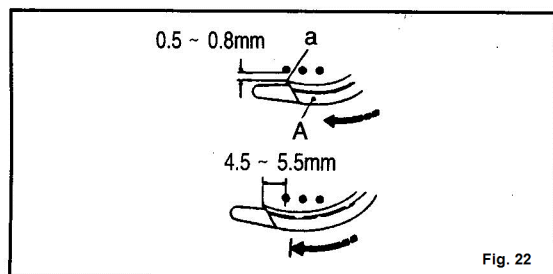

Fig. 22
When Spreader (A) moves from right to the left, clearance should be about 0,5 ~0,8 mm between left needle and tip (a) of thread hooking point. When it comes to the extreme left, the clearance between the center of the left needle and tip (a) of thread hooking point should be 4,5 ~5,5 mm (Fig. 22).